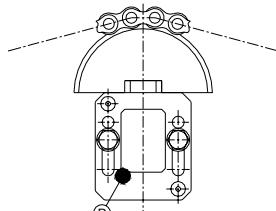

图 3 – Bild 3
The automatic tightener should be positioned in the driven branch as close as possible to the driving pulley. The tension in the belt branch on which the tightener acts is steady because the friction and contrasting forces on the belt tightener are almost zeroed. The force developed by the BLU element should be at least necessary to re-balance the resulting value from the sum of the two components of the tension on the branch on which the tightener is applied, along the tightener axis itself. The BLU element will work ideally if – when you position it – the angles which form between the sliding axis of the pin (i.e. the spring) and the belt "incoming" and "outgoing" from the tightener are as equal as possible. Figure 3 shows an example of a correct application: the BLU element has been positioned along the driven branch. The gear configuration forms an angle of the belt going out of the driving pulley of γ degrees versus the vertical position, and on the driven pulley of β degrees versus the vertical position. The BLU element works correctly when it is oriented in a way that the angle obtained from the belt "incoming" and "outgoing" from the tightener and its axis are even and equal to:
- 4) 将如此预加负荷的 BLU 安装在设备上，使用两个螺钉和在主体上的槽将其推靠在将受力的系统（链条或皮带）上。将螺钉拧紧，如果有必要的话，将两个柱销插在主体上相应的孔内。在这一步，应注意张紧装置的轴和受力组件之间所形成的定位角度 (图 3);
- 4) Place BLU, so preloaded, on the system and through the use of two screws and the slot placed on the body, push it towards the organ to be set at work (chain or belt). Tighten the screws and if necessary place two pins in the designated holes on the body. In this phase pay attention to the angle positioning which will be created between the tightener axis and the element to be tensioned (Bild 3);